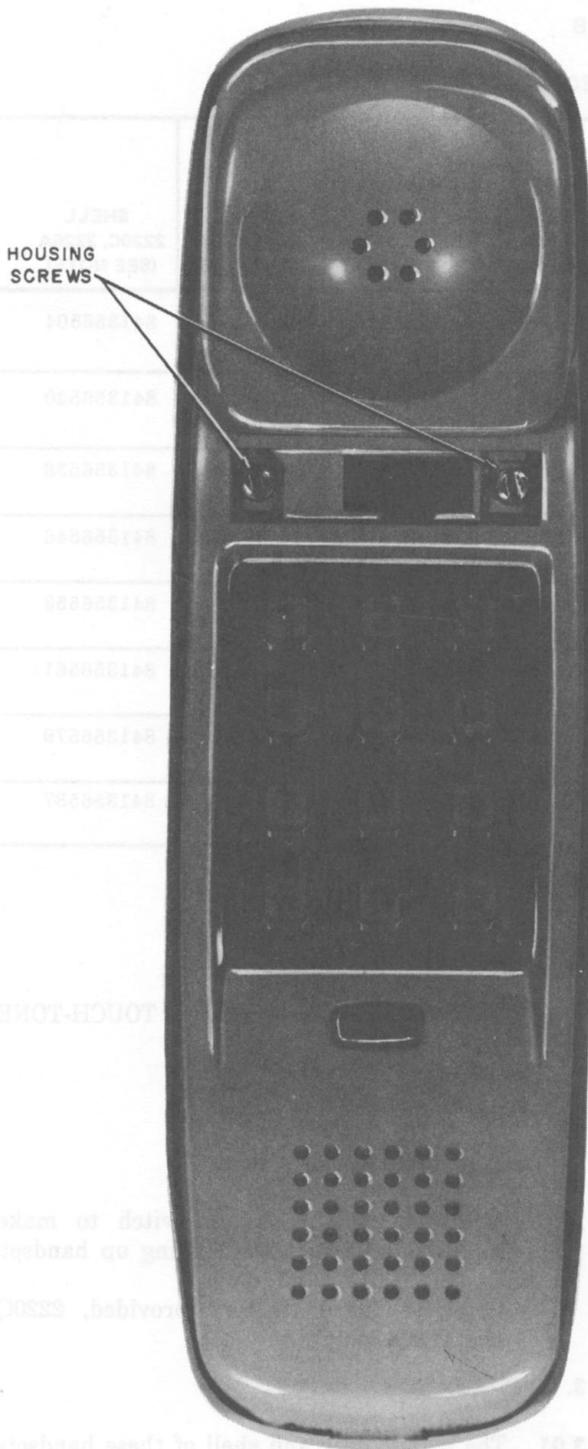

Fig. 6—Location of Housing Screws
- 3.01** The plastic deck and shell of these handsets are held together by two screws located under the cover above the dial (Fig. 6.)